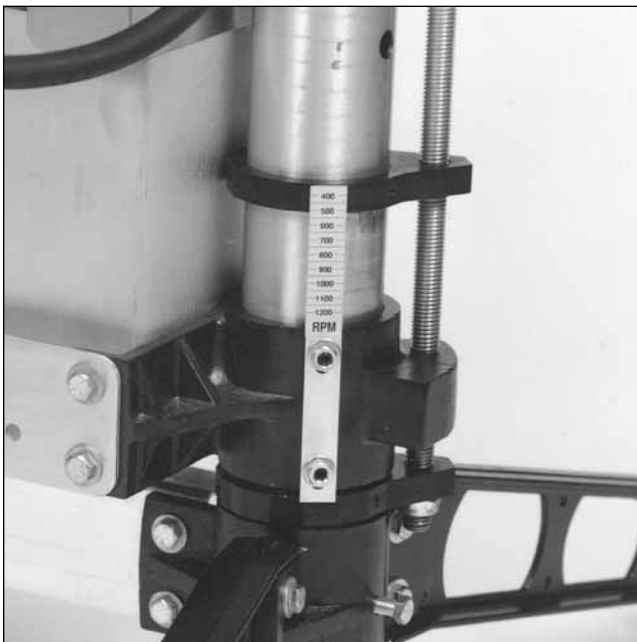

Fig. 8. Brush RPM gauge.
The RPM gauge (Fig. 8) displays the brush speed and is read where the scale intersects the top of the screw support casting. To calibrate the gauge, lower the motor to the lowest position. Loosen both hex nuts while holding set screws. Position the RPM scale so that "400" RPM intersects the top of the screw support casting (Fig. 8). Tighten hex nuts to hold gauge in this position.
7. Gradually increase brush speed until the desired finish is achieved (Fig. 8).